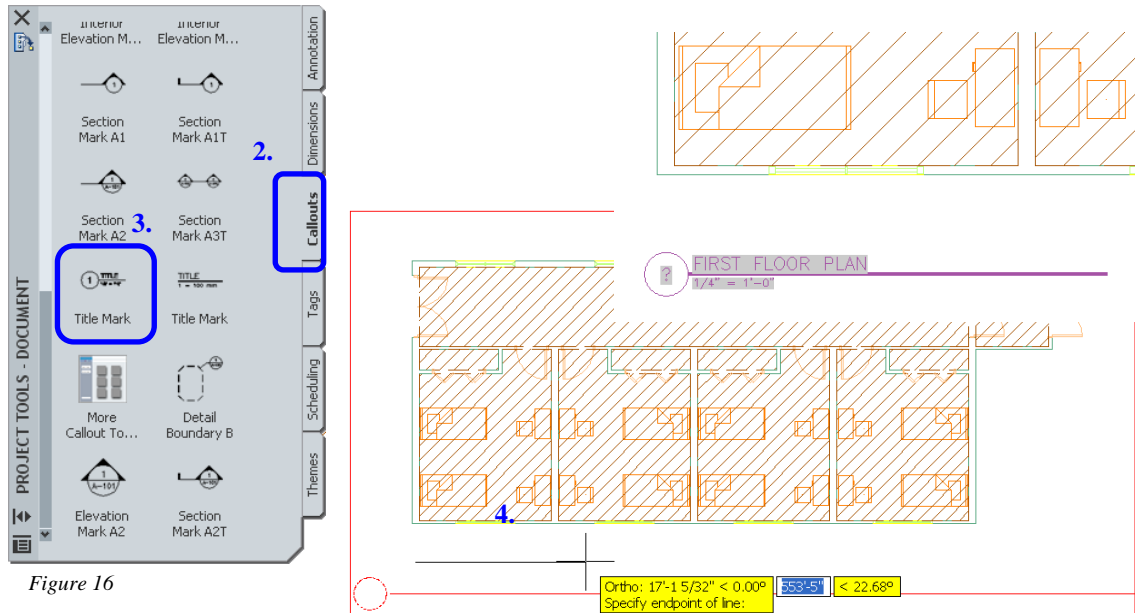

Figure 16
4. Specify two endpoints to draw the title mark within the red boundary of the viewport. Note that the fields of the title mark symbol have filled themselves out with the name and scale of the model space view. *Figure 16.*